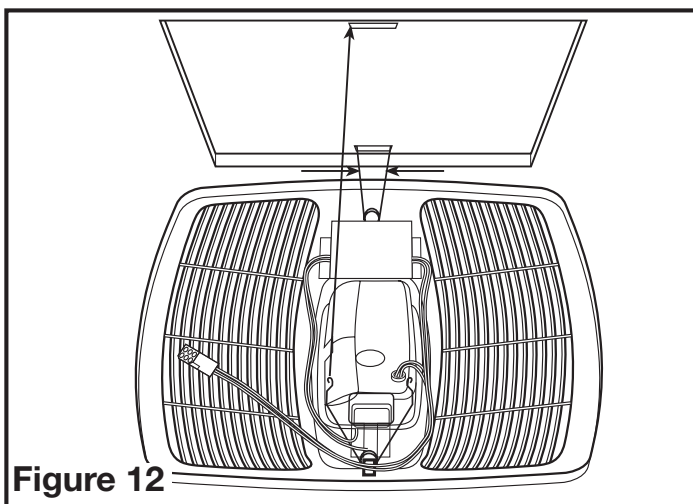

Figure 12
5. Install the grill by squeezing the springs together and installing it up into the slot furthest from the wire compartment on the fan's housing. Attach the 6 pin quick connect from the grill to the 6 pin connector on the top of the wire cover. The cord will only fit one way into the receptacle. Install the other spring and push the grill up into position. (Figure 12).